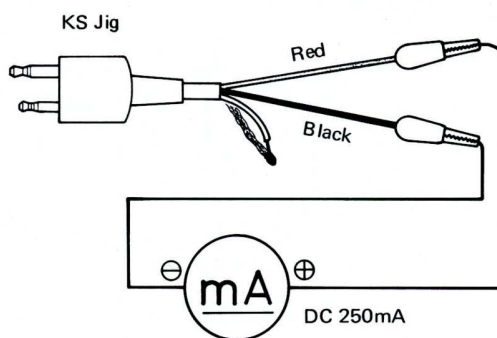

Fig. 38 Measuring the motor current
- Connect the ammeter through a KS jig connected to the microphone and remote control jacks. (Fig. 38)